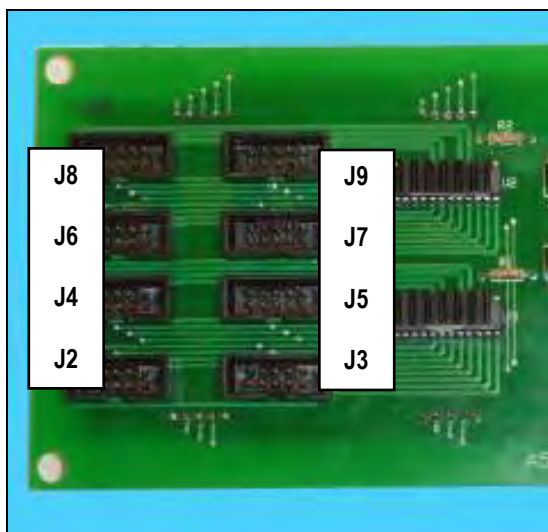
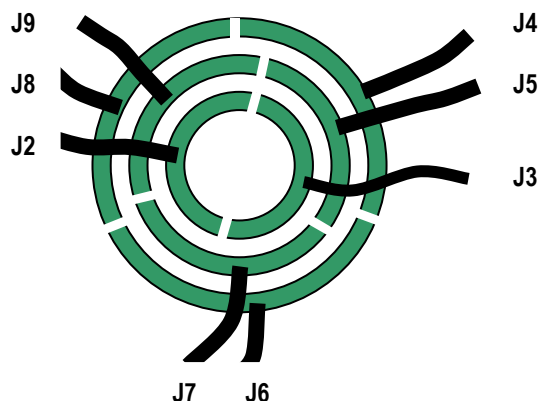

Figure 15 Jumper Locations on Ticket Display Board
Figure 16 Jumper Positions
10. Plug in the ribbon cables to the circuit board as shown in Figure 15 and Figure 16. It is important that they be in the proper positions on the circuit board.